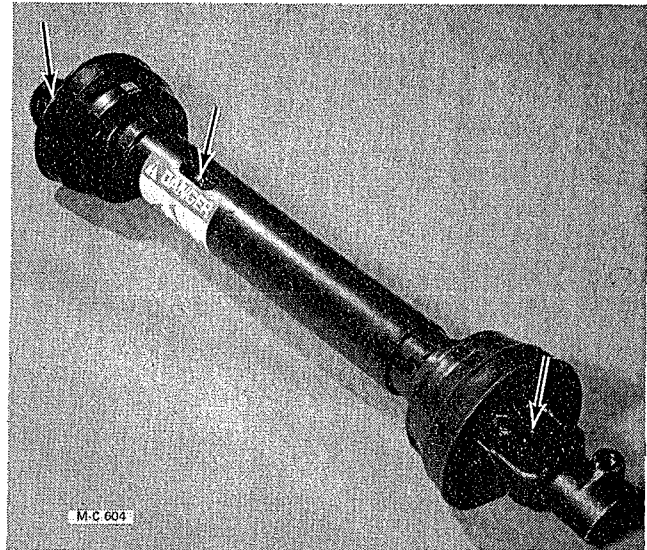

Figure 12
1. Power take-off shaft universal joints (2). One fitting in each yoke and one fitting in the telescoping PTO shaft, see Figure 12.